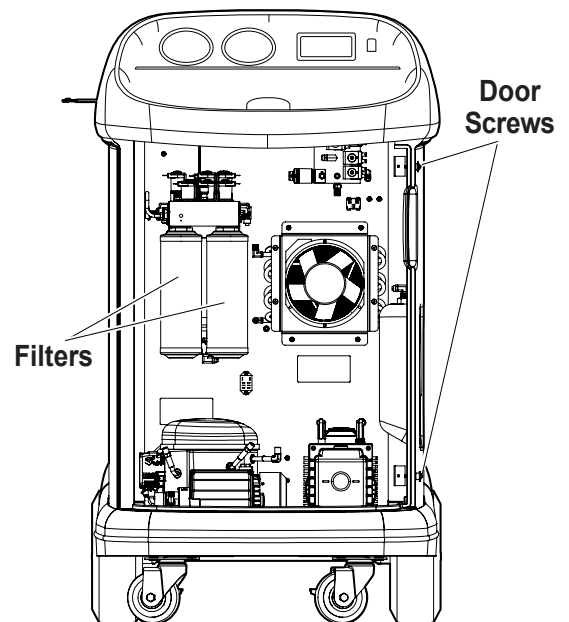

Figure 11
Turn off the machine. Remove the two door screws and open the door. See Figure 11.
5. Install the new filters by threading them clockwise into place. Verify the filters are positioned correctly as shown in Figure 11. Tighten both filters to 20 Nm.